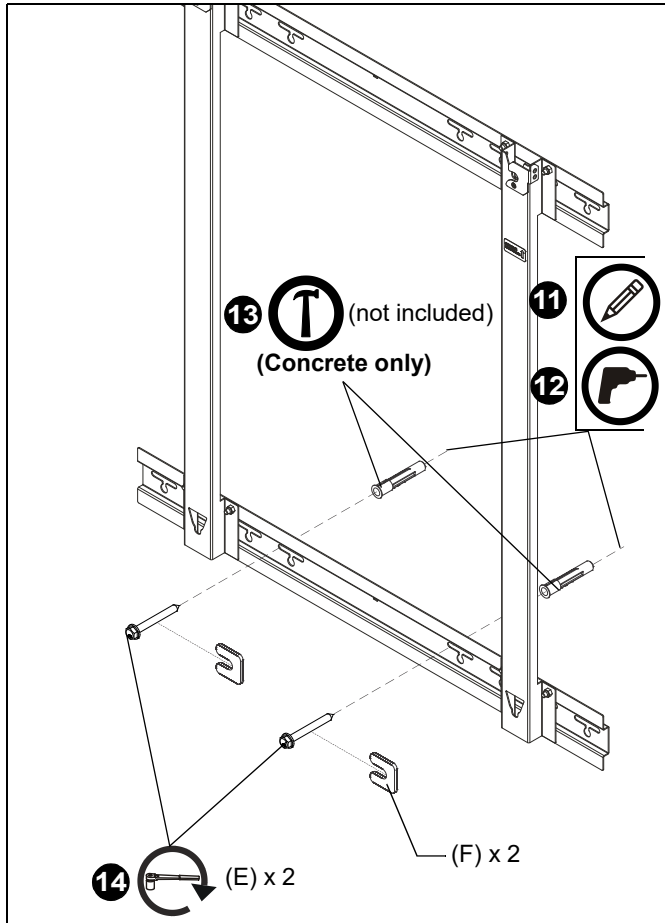

Figure 5
10. Level lower wall plate and tighten eight upper and lower lock nuts (D) in vertical brackets installed in Steps 7 and 9.
12. **Wood stud:** Drill two 7/32" x 2-3/4" pilot holes at marked locations. **Concrete:** Drill two 3/8" x 3-1/2" pilot holes at marked locations. (See Figure 5)
14. Secure lower wall plate to wall using two 5/16 x 3-1/2" hex head lag screws (E) and two installation spacers (F). (See Figure 5)